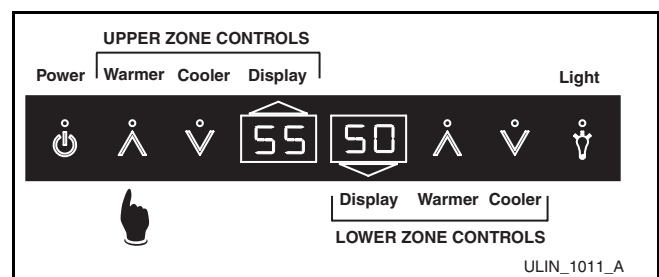

Figure 6. Displaying Zone Temperature
1. Press and hold the WARMER icon for the desired zone for approximately five seconds until unit beeps, and release when the decimal in the display begins to flash (Figure 6).